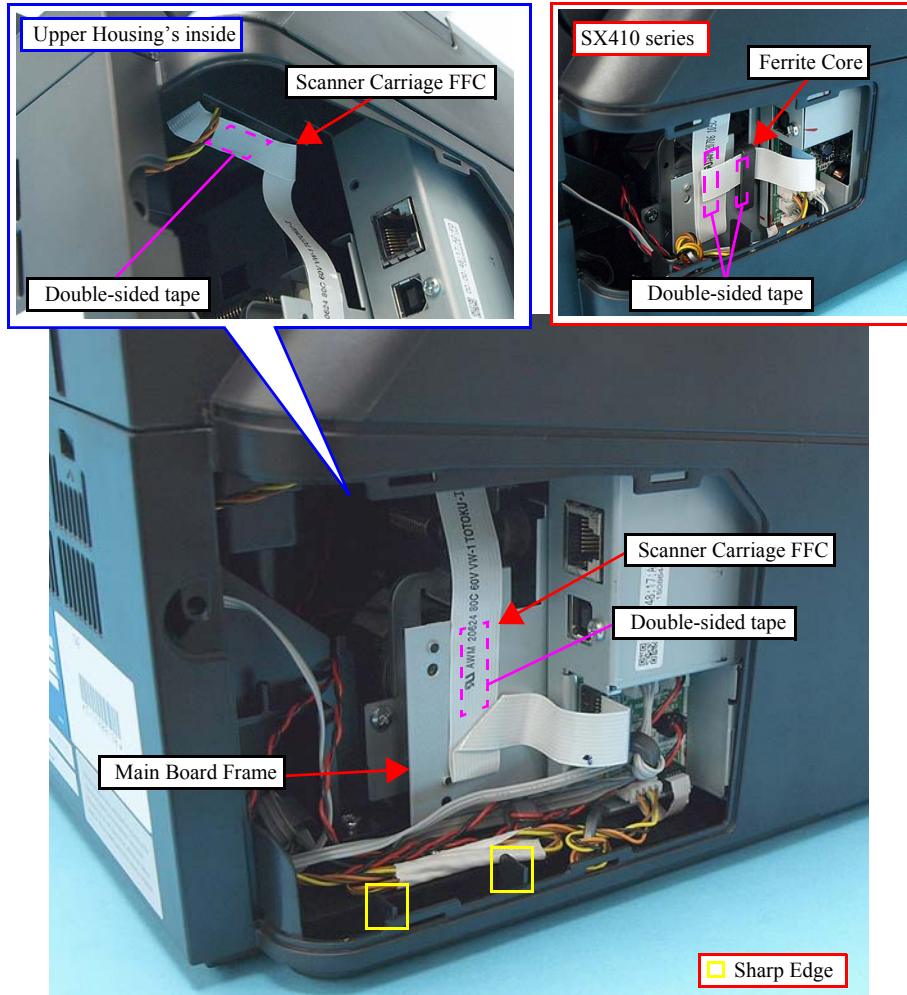

Figure 4-8. Removing the Scanner Unit (2)
**Be careful of the sharp edges shown in Figure 4-8 when assembling or reassembling.**
- Route the Scanner Carriage FFC and secure it to the Upper Housing and Main Board Frame with double-sided tape as shown in Figure 4-8.